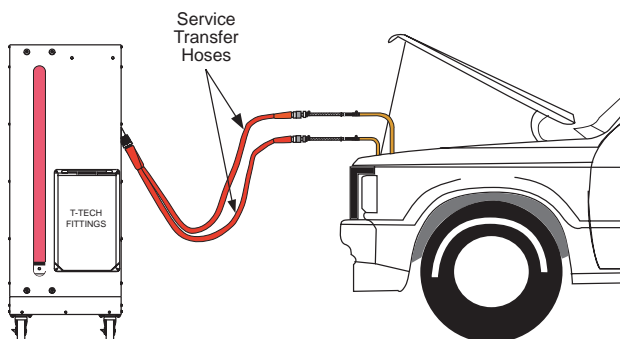

**Figure 39.** Attach Service Adapter Hoses
8. Attach service adapter hoses to each fitting as shown in Figure 39.